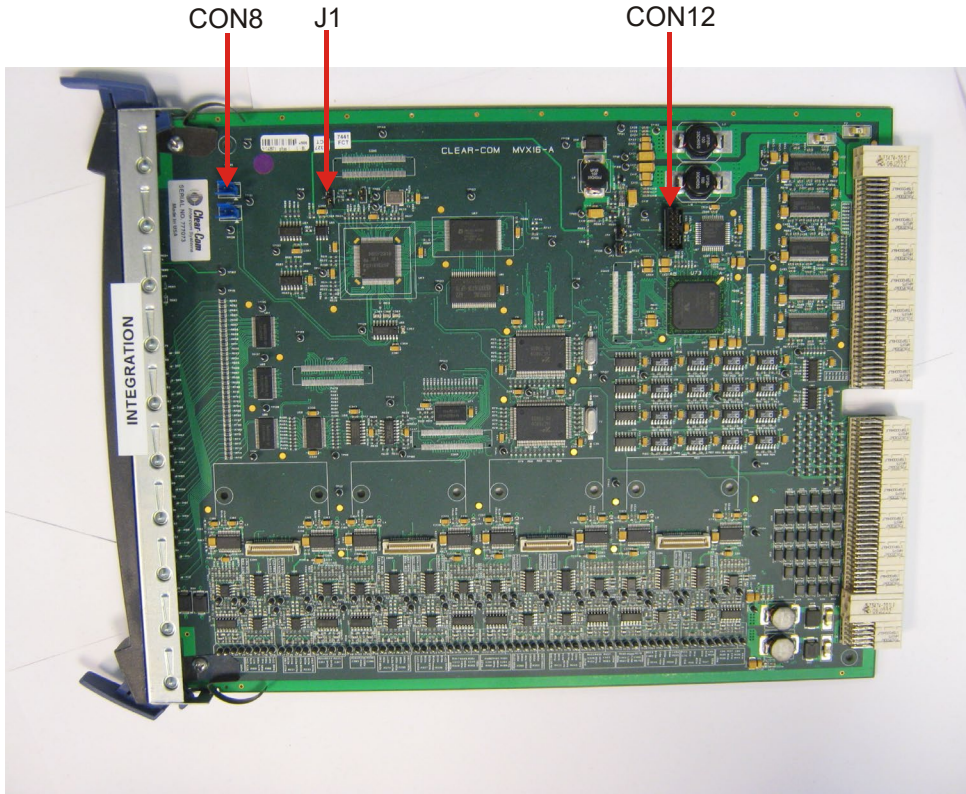

Figure 7-2: MVX-A16 MK I card: J1, CON8 and CON12
The MK 1 MVX-A16 card is **green**. – see **Figure 7-2: MVX-A16 MK I card: J1, CON8 and CON12**
Tip: For the location of connectors and jumpers on the MVX-A16 MK I card, see **Figure 7-2: MVX-A16 MK I card: J1, CON8 and CON12**
- Connect the MVX serial cable (CAB-MVX-48Z) to the **CON8** connector on the MVX-A16 card and to the PC (see **Figure 7-2: MVX-A16 MK I card: J1, CON8** and CON12).
3. Connect the **14way IDC header** to **CON12** (see **Figure 7-2: MVX-A16 MK I card: J1, CON**).